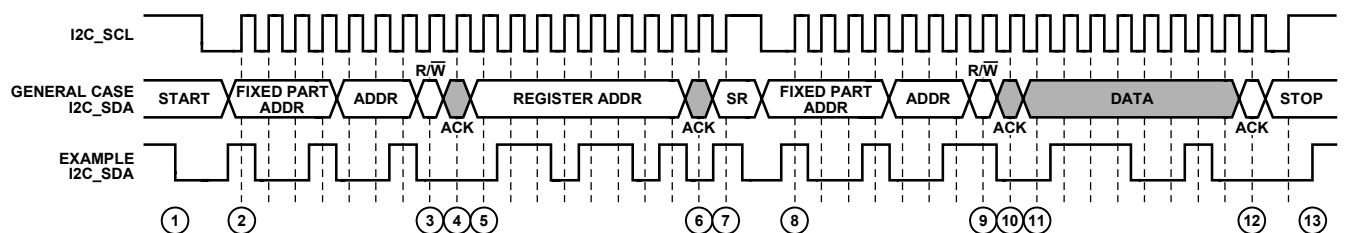

Figure 30. I²C Read Diagram
To read data from the AD8197A register set, an I²C master (such as a microcontroller) needs to send the appropriate control signals to the AD8197A slave device. The signals are controlled by the I²C master, unless otherwise specified. For a diagram of the procedure, see Figure 30. The steps for a read procedure are as follows:
9. Send the read indicator bit (1).
- 13a. Send a stop condition (while holding the I2C_SCL line high, pull the SDA line high) and release control of the bus to end the transaction (shown in Figure 30).